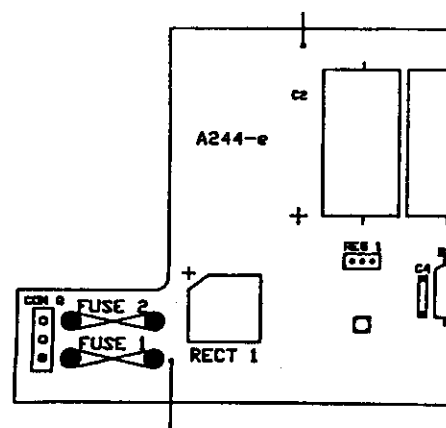

Figure 5.5
3) +/- 18V fuses - These fuses are mounted on the right-hand printed circuit board of the power unit. See figure 5.5.